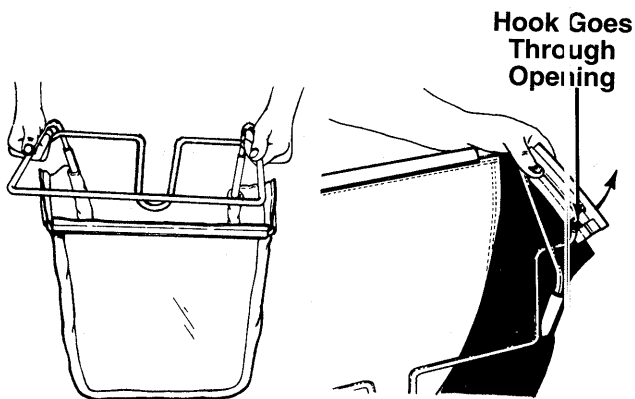

FIGURE 10.
- Slide the ends of the front frame assembly into the ends of the rear frame as shown in figure 10.
- Slip the openings in the side of the plastic channel on bag over hooks on the grass catcher frame. See figure 10. ←